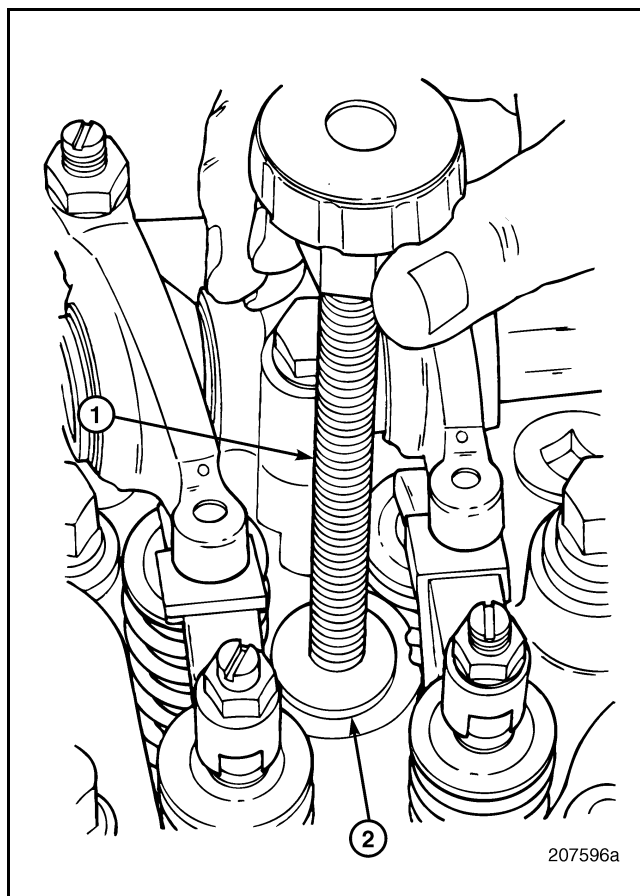

Figure 375 — Nozzle Holder Installation Check
- Insert the gauge block into the nozzle holder sleeve bore. The gauge block should be flush with the top surface of the cylinder head nozzle sleeve bore. Refer to Figure 375.